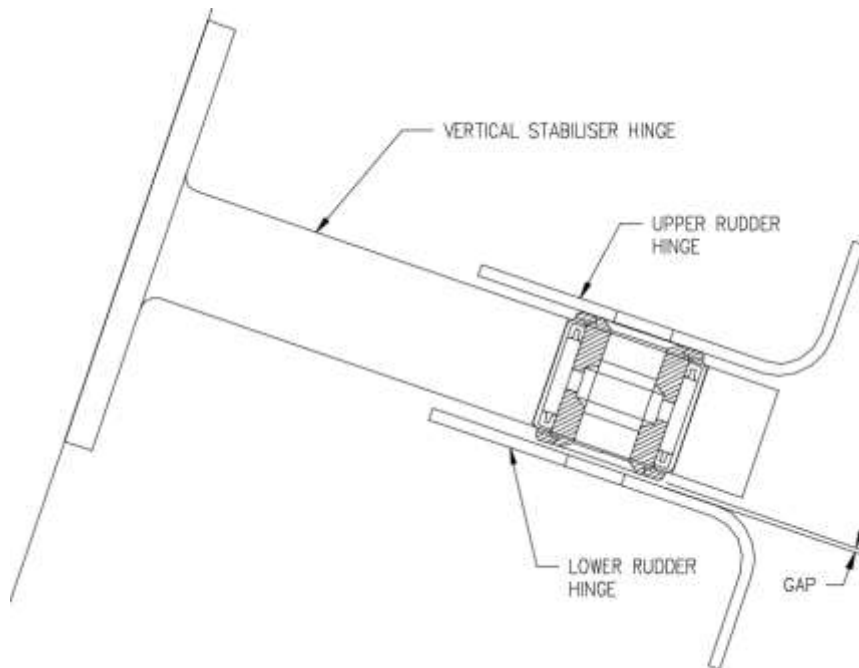

Figure 11 – Measurement of gaps for Upper and Centre Rudder Hinges
- 8.1. Temporarily insert serviceable Upper and Lower hinge bolts through Rudder and Vertical Stabiliser Hinges. Measure the gaps between the end washer of the needle roller bearings and upper faces of the Upper and Centre rudder hinges as shown in Figure 11.